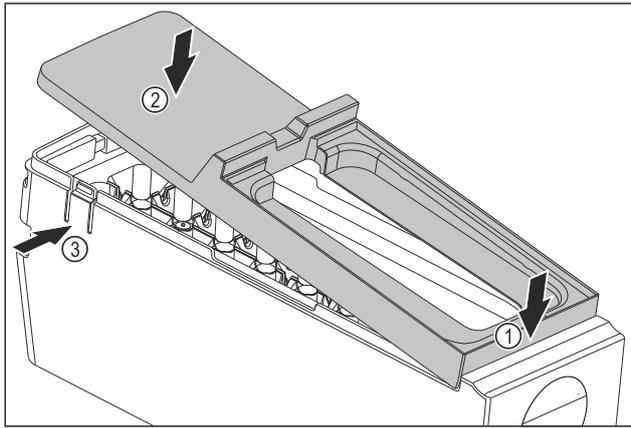

Fig. 186
- ▶ Installing the cover of the EasyTwist-Ice body: Fit the cover at the front. Fig. 186 (1)
- ▶ Lower the cover at the rear. Fig. 186 (2)
- ▷ The cover snaps audibly into place in both tabs Fig. 186 (3).